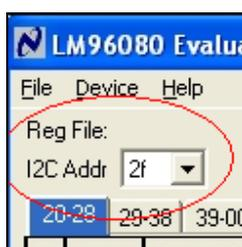

Figure 4 – I²C Address
- In the SensorEval Software, select the I²C address that matches the address bit selected in step 1. Use table III to set the correct I²C address, which is located on the top left hand corner of the SensorEval Software (figure 4).